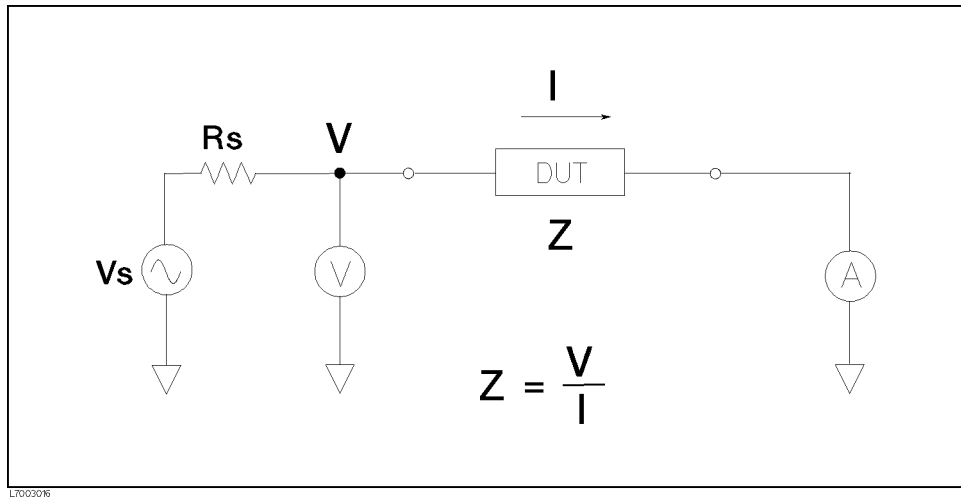

Figure 3-6. Simplified Model of Impedance Measurement
Figure 3-6 shows the simplified model of the HP 4263B impedance measurement. V_s is the test signal level (voltage) and R_s is the source resistance. If the current across the DUT is I when a test signal voltage V is applied, the DUT's impedance, Z , is expressed by,
Figure 3-6 shows the HP 4263B's simplified model. The actual current level applied to a DUT depends on the test signal level (V_s), the DUT's impedance value (Z), and the HP 4263B's source resistance (R_s) which is in series with the DUT. The actual current level (I) through the DUT is calculated using the following equations.